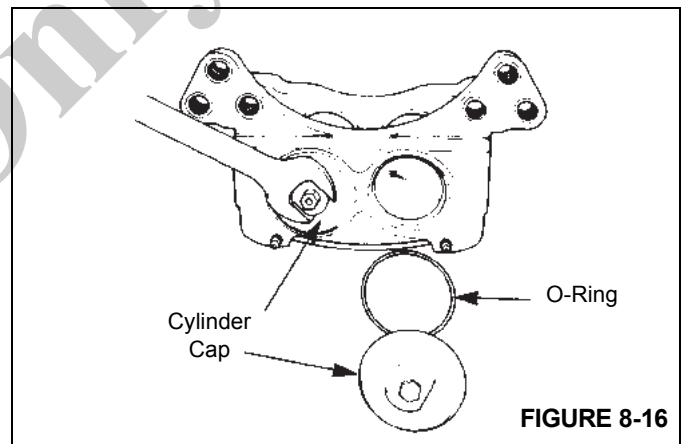

FIGURE 8-16
7. Remove the cylinder caps from the housing using an open end wrench. Remove and discard the O-rings (Figure 8-16).
2. Install new o-ring and a new back-up ring in the groove in the middle of the bore. The o-ring is installed toward the outboard end of the bore. The back-up ring is installed toward the lining side of the bore (Figure 8-16).